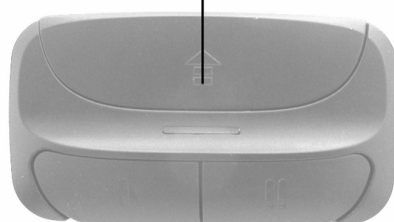

Fig 1.
3. Remove the access cover of the remote by sliding it off in the direction of the arrow giving access to the program button and code switches (Fig1).